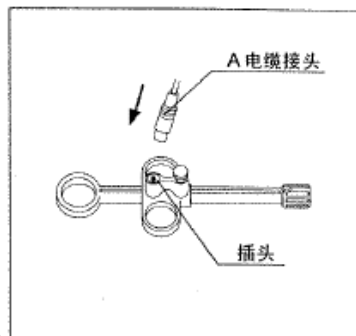

Fig3.5
1. Insert cable connector A into the plug until you hear the snap sound (see fig. 3.5);